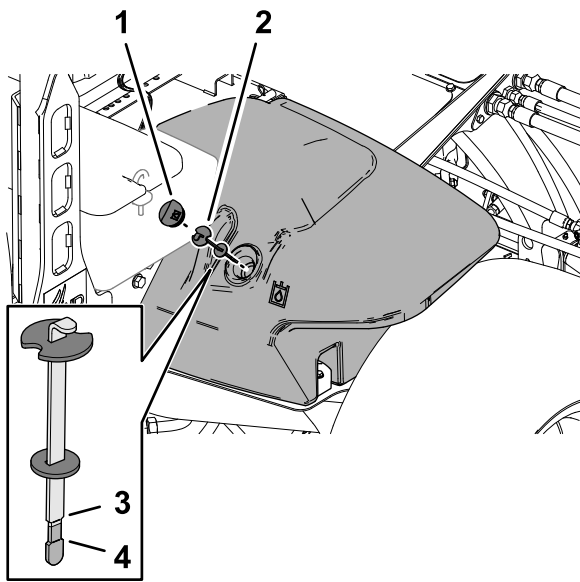

Figure 162
2. Clean the area around the filler neck and cap of the hydraulic tank (Figure 162).